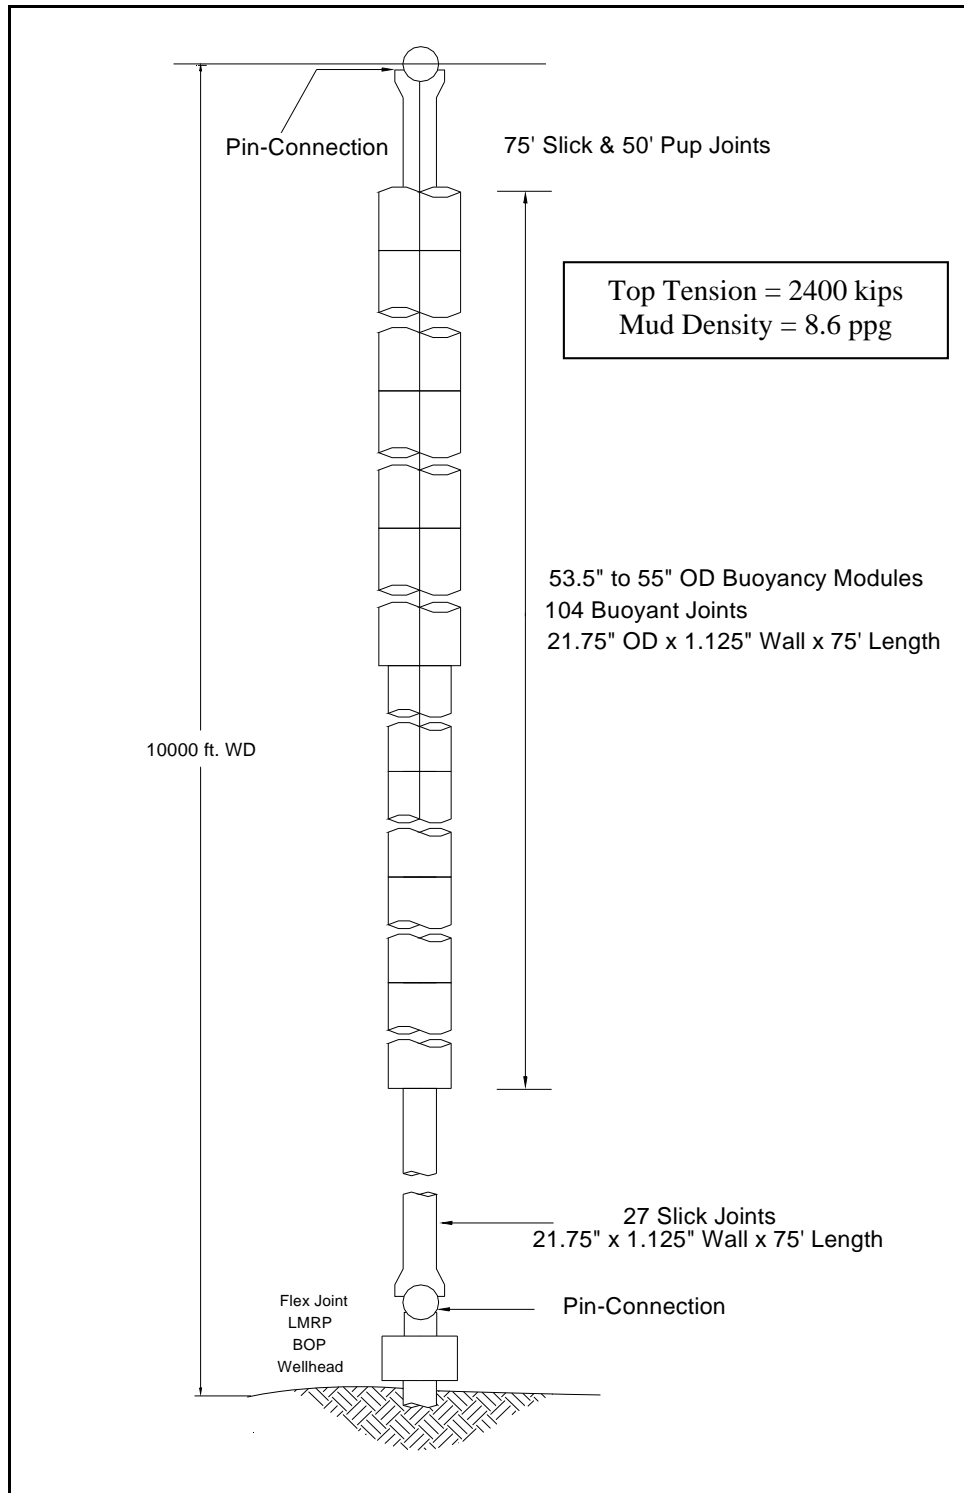

Figure 5.1 Example Problem 1:
- Example 1 is a rigid riser in 10,000 ft water depth with GOMEX 3.5 knots loop current (Figure 5.1). The riser has a pinned upper and lower boundary conditions;